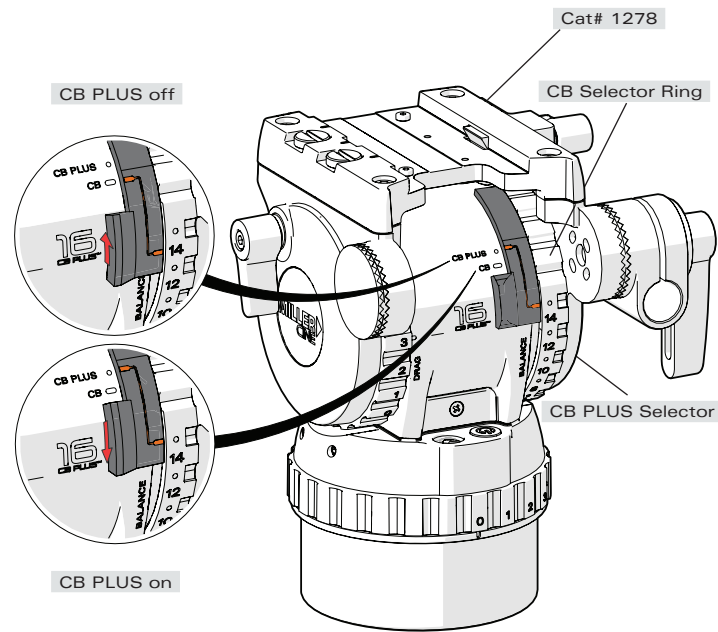

Fig. 7
The counterbalance system was designed to neutralise the effect of the camera weight when it is tilted. The ArtX Fluid Head offers a 15 position counterbalance system which is operated with the CB SELECTOR RING and the CB PLUS SELECTOR (Fig. 7). With ArtX it is also possible to disengage counterbalance (position zero),
- 3.1 For safety it is generally better to start at a higher counterbalance position (e.g. position 14) and work your way to the correct setting, this is to reduce any chance of unwanted tilt drops (Fig. 7).